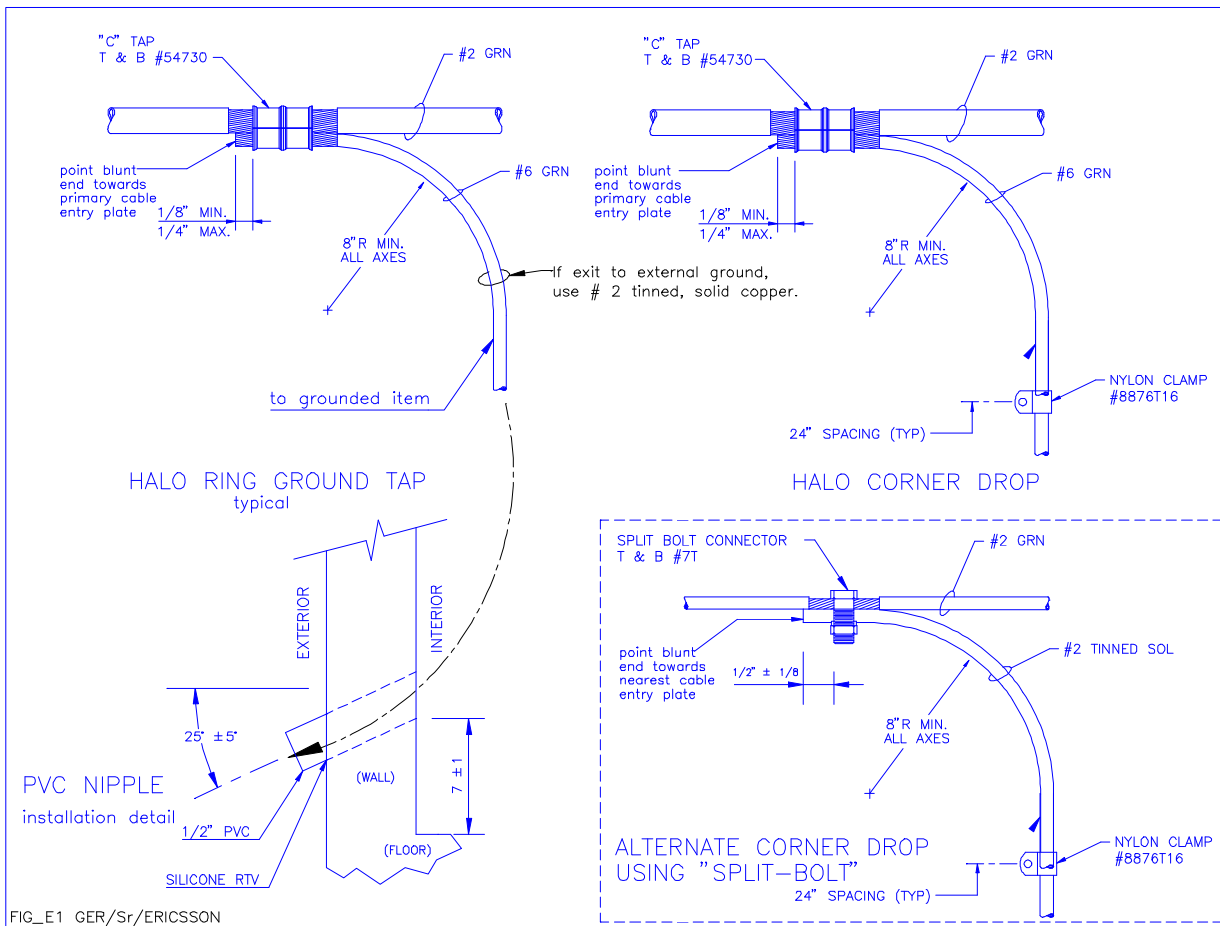
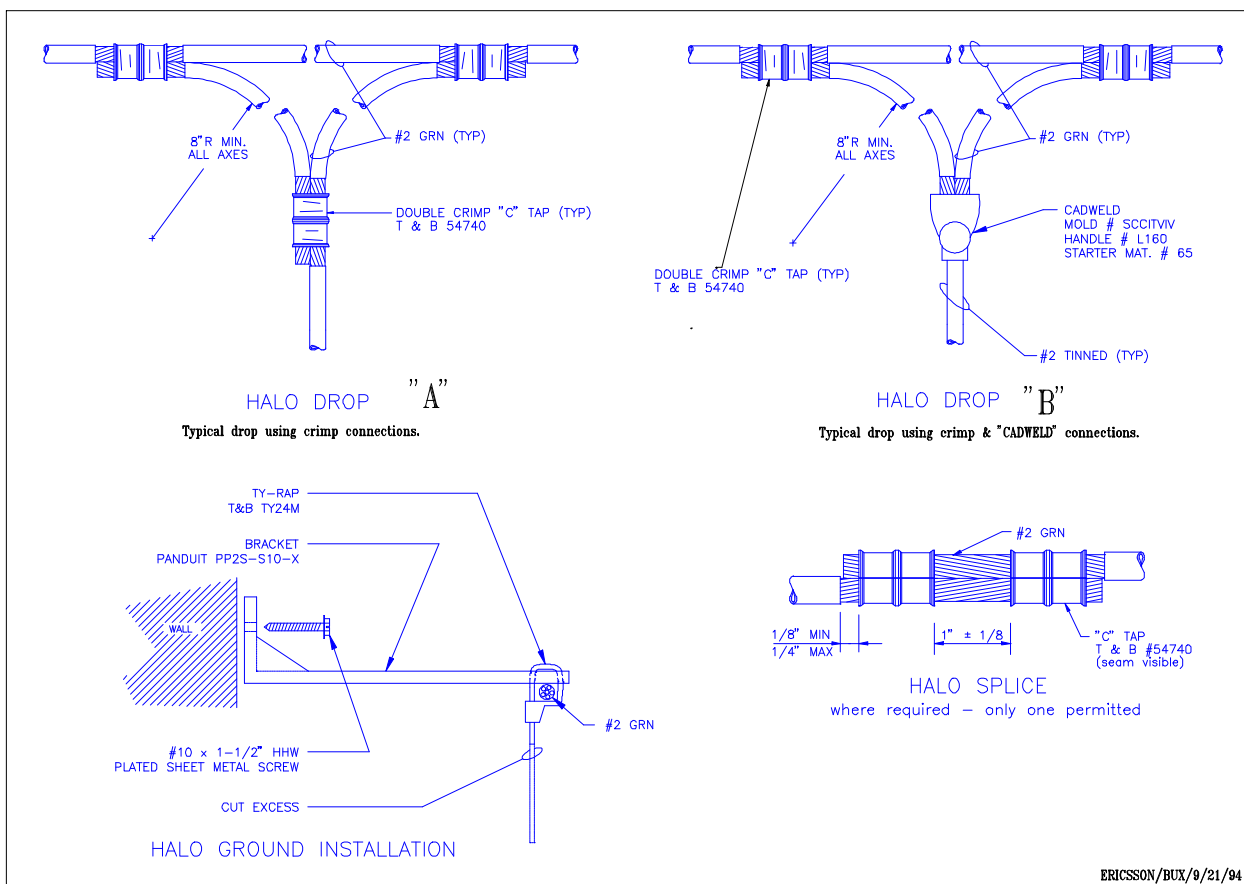

Figure A1 - Halo Attachments
Figure A2- Internal "HALO" Connections
This Halo is made of number 2 AWG stranded copper wire attached to standoffs (*see Appendix A, Figure A2*) at approximately eight (8) feet above the equipment room floor.
Where the room or communications shelter has less than 100 feet of perimeter, a minimum of four (4) ground risers are used. In any case, where possible, a ground riser is used at each corner of the perimeter (*see Appendix A, Figures A1 & A2*). In installations where the perimeter of the equipment room exceeds 100 feet perimeter, a ground riser will be attached at every twenty (20) feet of perimeter (*see Appendix A, Figure A2*). These ground risers are made of number 2 AWG **SOLID** copper which exit the room, or building via **poly-vinyl conduits** (*see PVC exit method in Appendix A, Figure A1*).